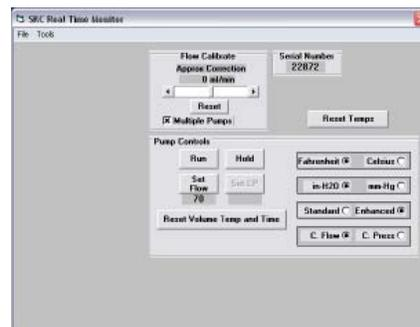

Figure 6A. Multiple Pumps Checkbox
- E. Multiple Pumps Checkbox (see Figure 6A)
Once checked, a separate window will open (Figure 6A). Set parameters as desired for one pump, disconnect the interface cable from the pump, and insert the cable plug into the interface port on another Pocket Pump. Once all pumps are set up, click the Multiple Pumps checkbox to deselect this option. You will be returned to the Real Time Monitor window.